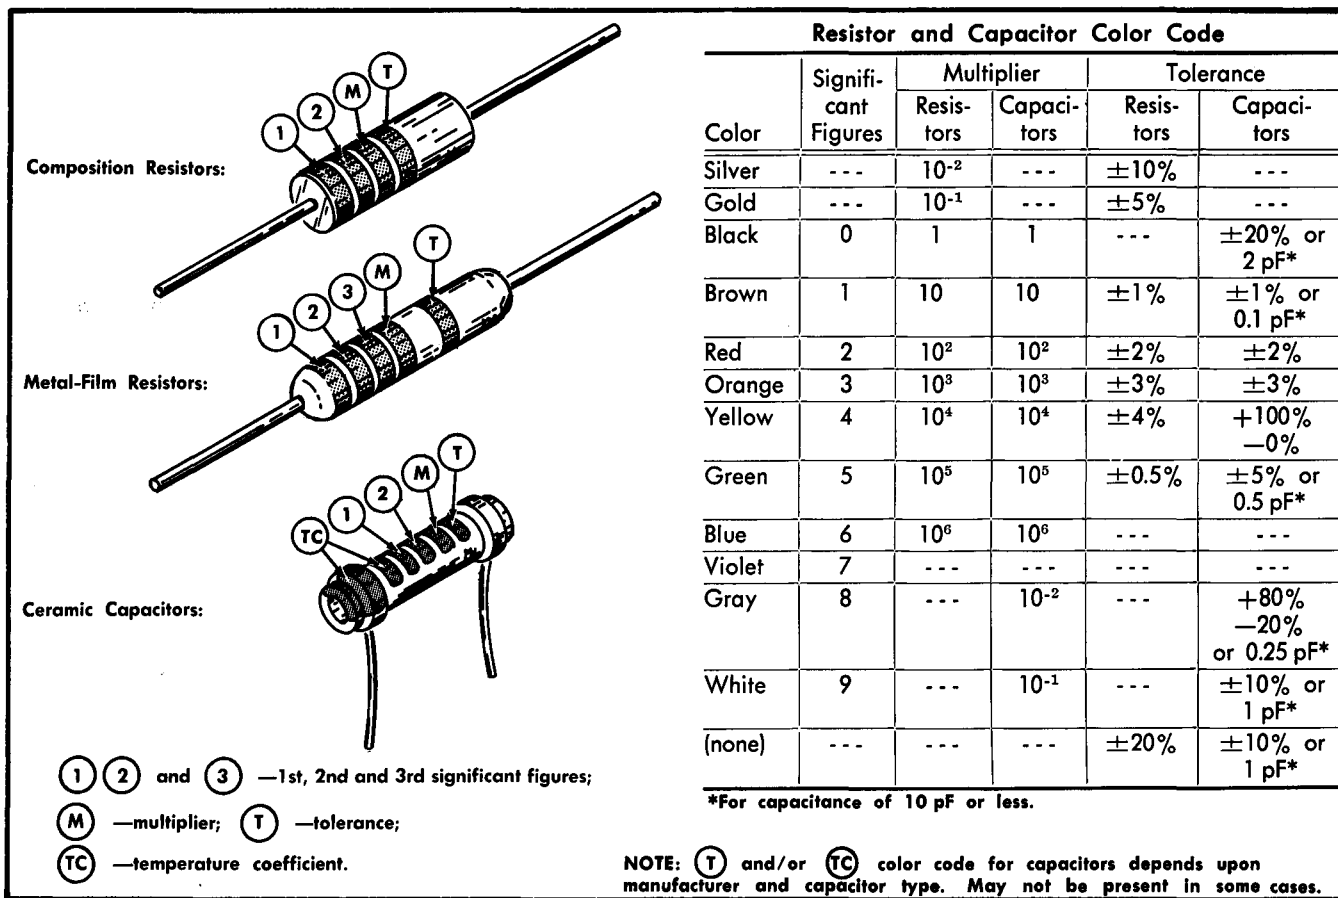

Fig. 4-1. Color-code for resistors and ceramic capacitors.
**Resistor Color-Code.** In addition to the brown composition resistors, some metal-film resistors and some wire-wound resistors are used in the Type 7A14. The resistance values of wire-wound resistors are printed on the body of the component. The resistance values of composition resistors and metal-film resistors are color-coded on the components (some metal-film resistors may have the value printed on the body) with EIA color-code. The color-code is read starting with the stripe nearest the end of the resistor. Composition resistors have four stripes which consist of two significant figures, a multiplier and a tolerance value (see Fig. 4-1). Metal-film resistors have five stripes consisting of three significant figures, a multiplier and a tolerance value.
farads on the side of the component body. The white ceramic capacitors used in the Type 7A14 are color coded in picofarads using a modified EIA code (see Fig. 4-1).